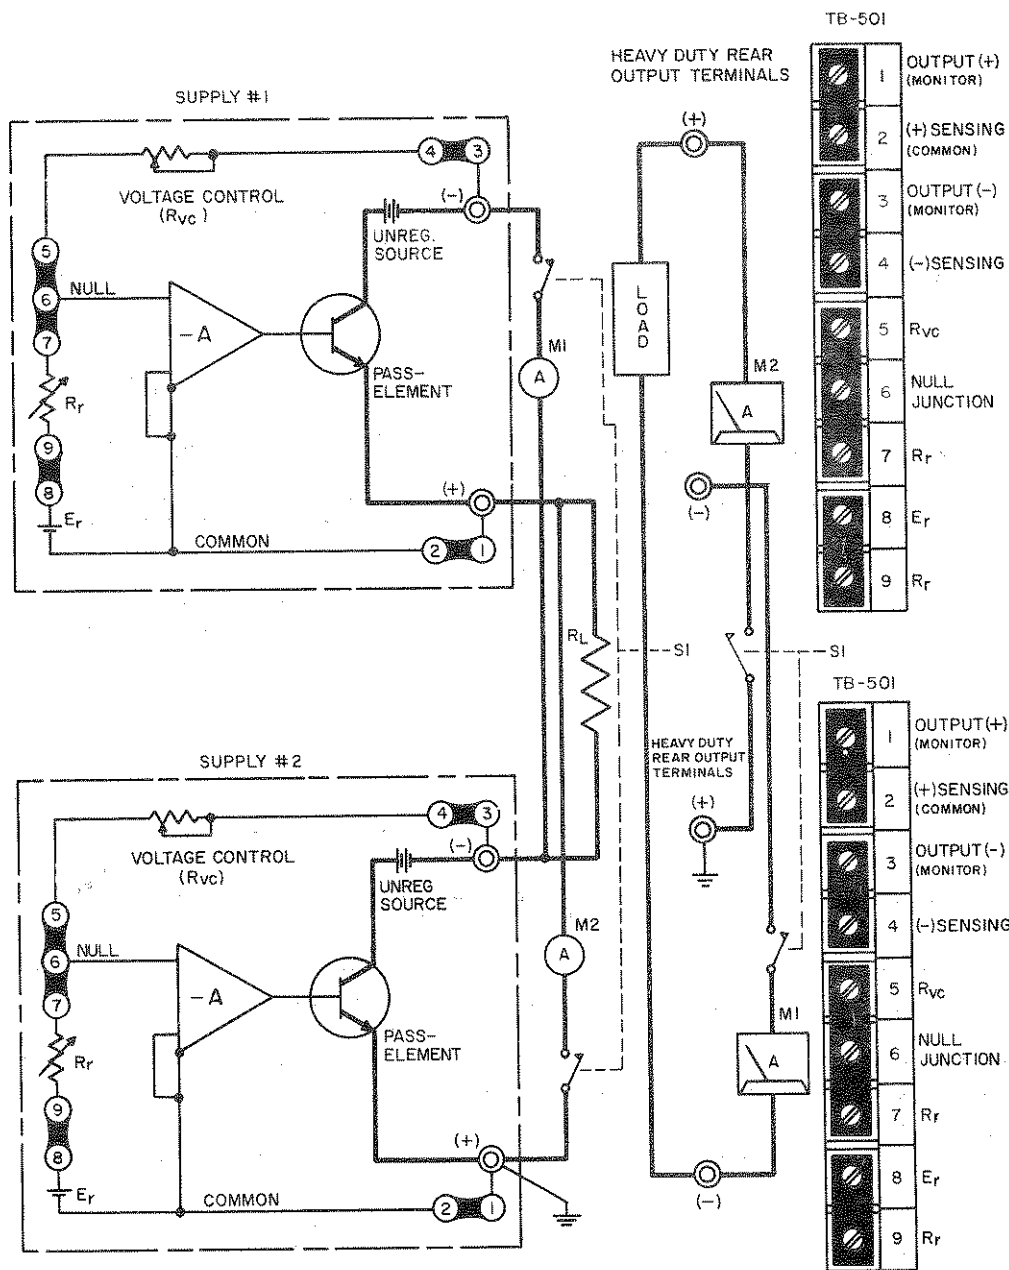

FIG. 3-13 BASIC PARALLEL CONNECTION OF TWO KEPKO POWER SUPPLIES
3-44 **PROCEDURE FOR AUTOMATIC PARALLEL CONNECTION** (See FIG. 3-13)
- 4) Make all load interconnections as shown in the connection diagram (refer to FIG. 3-13) *except the error sensing connections* (these connections may be added later if needed).